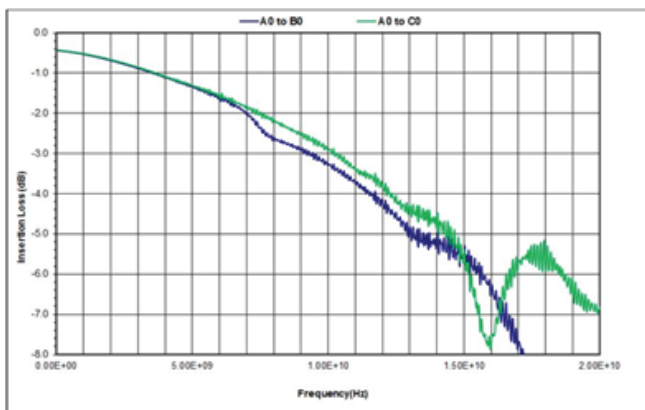

Fig.1 Differential insertion loss for PI3USB32212
3. **Insertion Loss** is a measure of power loss or signal attenuation at a given frequency and is measured in dB. Losses greater than 1 or 2 dB will attenuate peak signal levels and increase rising and falling edge times. Pericom's USB 3.0 switch has insertion loss of -1.3db @5GHz. Fig 1. shows insertion loss plot for PI3USB32212 (2:1 combo, USB 3.1, USB 3.0 and USB 2.0 switch)